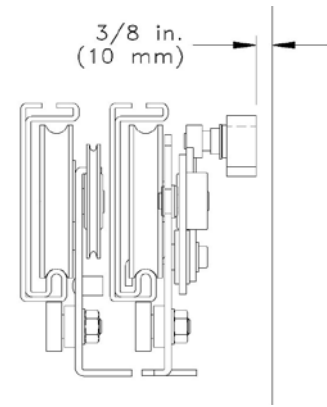

Figure 51 Roller Clearance
2. Make sure there is 3/8" (10 mm) clearance between the front of the door drive rollers (5 and 6) and the edge of platform. See Figure 51.